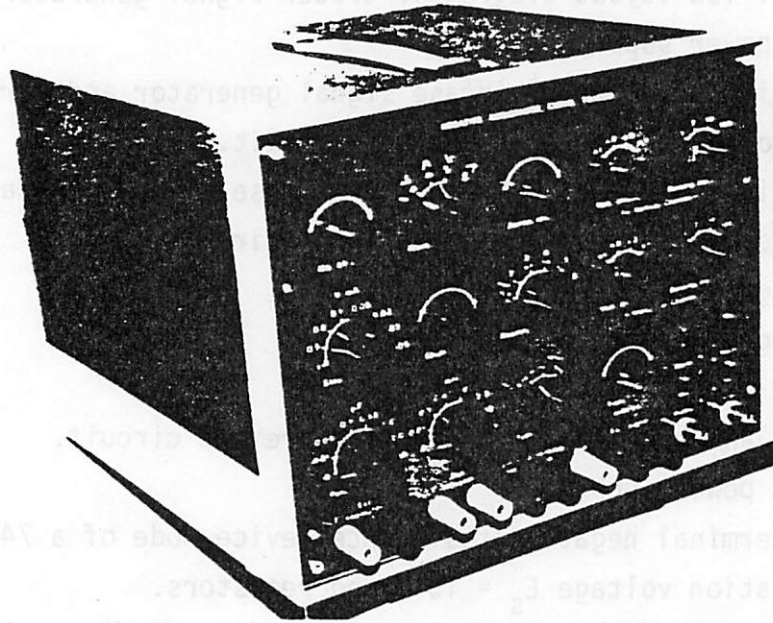

Fig. 1
- Fig. 1. Outline photograph of the curve tracer.